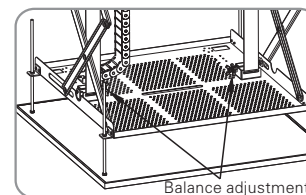

Figure 15
11. The installation board may be unbalanced since the difference of woven belt's tightness or the not centric barycenter of projector. To keep the installation board balance please adjust the length of woven belt. (Figure 15)